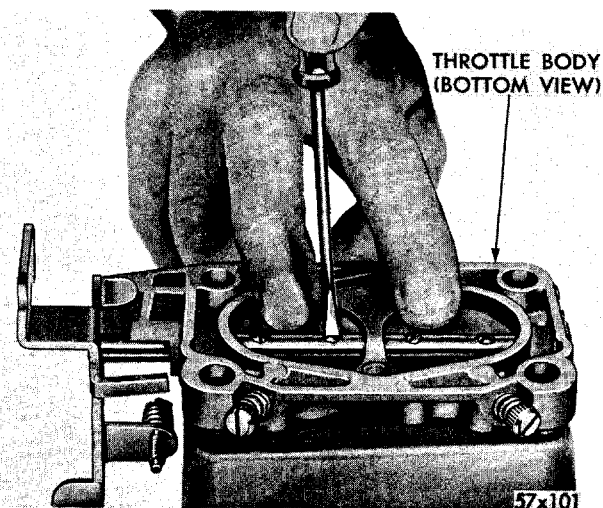

Fig. 14—Installing Throttle Valves
(6) Slide the valves in position through the throttle shaft, then insert NEW screws, but do not tighten. Now hold the valves in place with the fingers, as shown in Figure 14. (Fingers pressing on the high side of valves.)
(7) Tap the valves lightly with a screwdriver to seat in the throttle bores. Holding the valves in this position, tighten screws securely and stake by squeezing with pliers.
(8) Install the two idle mixture adjusting screws and springs in the throttle body. (The tapered portion must be straight and smooth.) If the tapered portion is grooved or ridged, a new idle mixture adjusting screw should be installed to insure having correct idle mixture control.